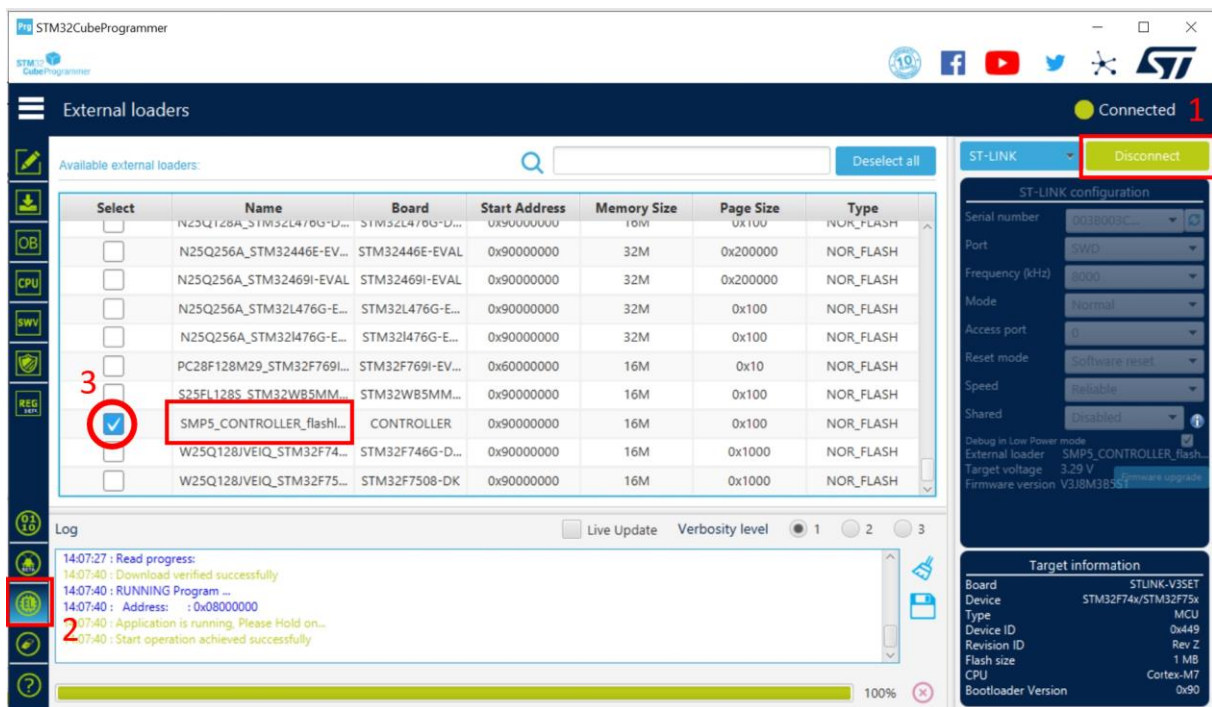

Figure 39: STM32CubeProgrammer software to connect to the SMP controller unit and to tick the necessary additional driver file.
- Connect (connect button) your hardware as shown in Figure 39, indicated by 1
- Change to the “External loaders” menu as shown in Figure 39, indicated by 2
- Activate/tick the driver file SMP5_*.stldr as it is shown in Figure 39, indicated by 3
- After successfully uploading the new firmware (it takes a while, several messages pop up, etc.), disconnecting your hardware (Figure 39, 1), unplug the compiler module and carefully close the lid of the controller unit without pinching cables